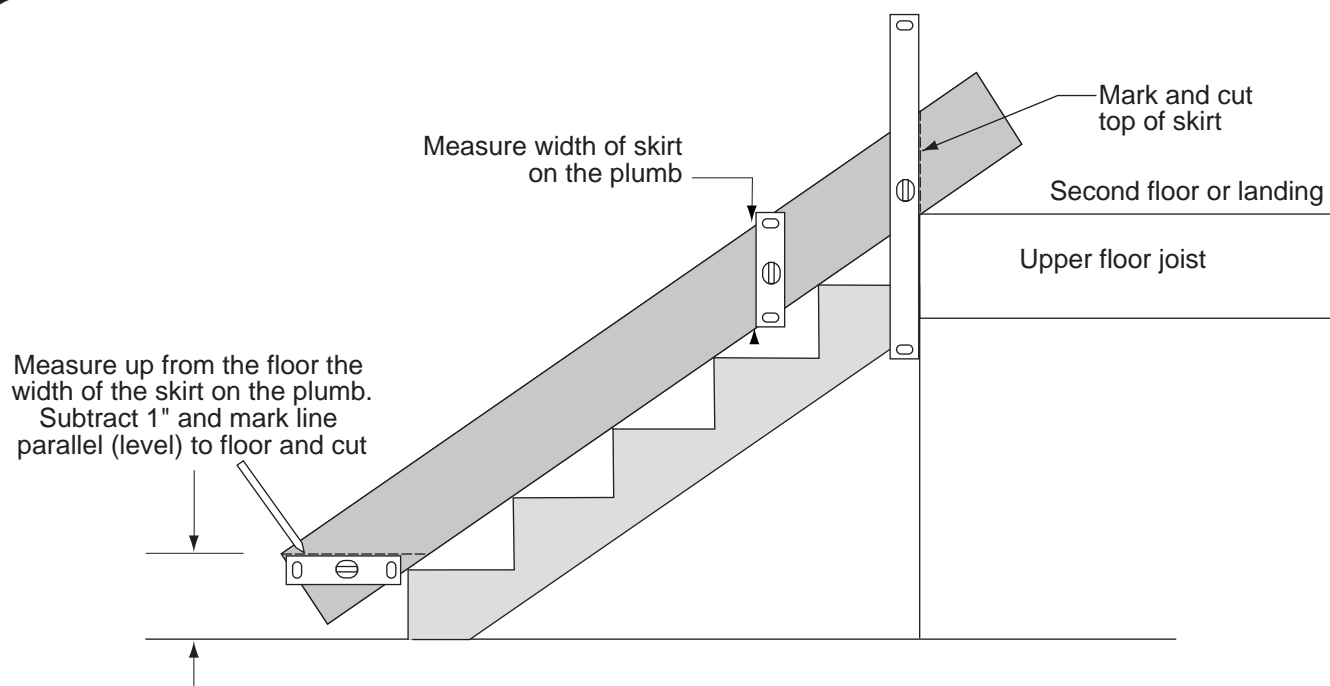

Fig. 2-1 Determining width of skirt.
3. Measure up from the floor at the bottom of the stringer. Take this distance, less 1-inch, and scribe a line level with the floor at this point. Please note Fig. 2-1 here.